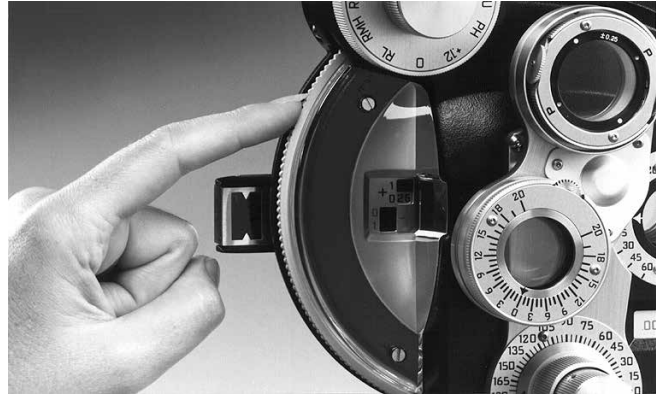

Figure TM-3 Moving Weak Sphere Dial
2. The operation is simple. Rotation of the Weak Sphere Dial downward (i.e. clockwise for the left eye, counterclockwise for the right eye.) introduces more plus power or less minus. Refer to Figure TM-3.
3. Rotation of the Weak Sphere Dial upward introduces more minus power or less plus. Refer to Figure TM-3.